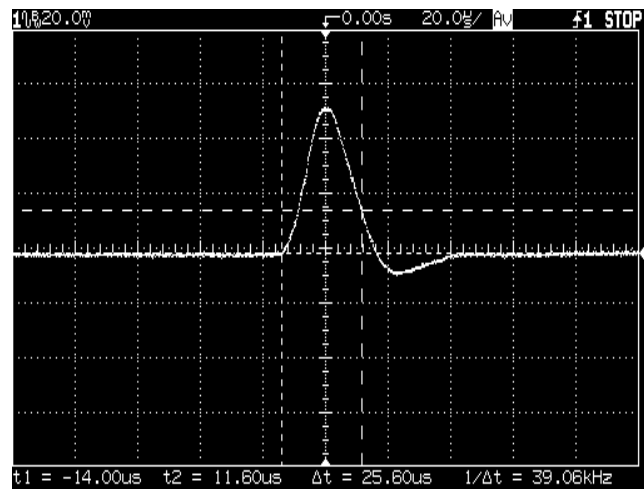

Figure A-4 Transient Response Time
- 5 Adjust the oscilloscope to display transients as shown in Figure A-4. Note that the pulse width (t2 - t1) of the transients at 15 mV from the base line is no more than 50 µsec for the output.
- 6 Repeats steps (1) through (5) for the other output.